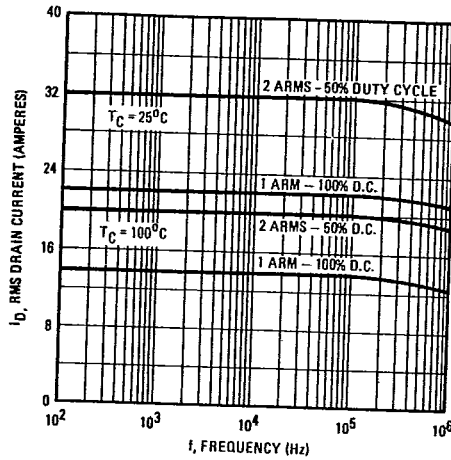

Fig. 16 - Maximum Continuous Drain Current Vs. Frequency Derating
- f) Make due allowances for drain current in high frequency applications. Refer to *Figure 16*.